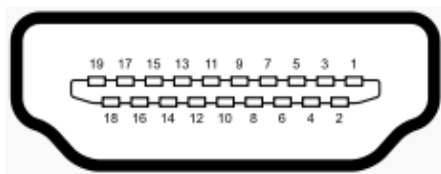

Figure 3-21: HDMI Connector Pinout Locations
- CN Pinouts:** See **Table 3-19** and **Figure 3-21**